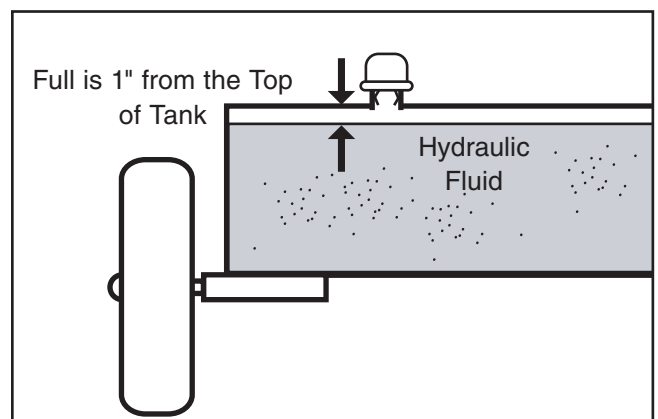

Figure 23. Hydraulic fluid level.
3. Shine a flashlight down into the vent port until you see hydraulic fluid. The fluid surface should be 1" from the top of the hydraulic tank as shown in **Figure 23**.